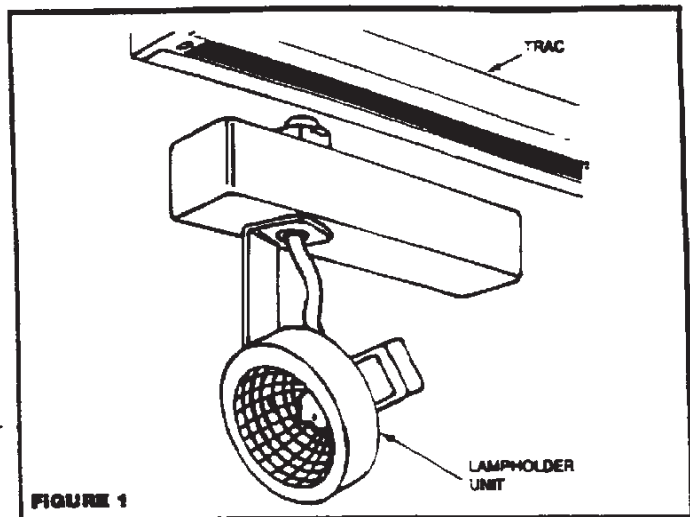

FIGURE 1
Halo-2 Lampholders can be used with Halo Miniature or Halo-2 Power-Trac systems. An adjustable contact allows you to select the circuit position. Use a narrow blade screwdriver, as shown, to adjust the contact. Lift or lower the contact until it touches the plastic stop of the contact assembly. For circuit #1 move contact to the down position. For circuit #2 move contact to the up position. (Figure 1)
STEP 1 Allow unit to cool and then remove from trac. (Figure 1)